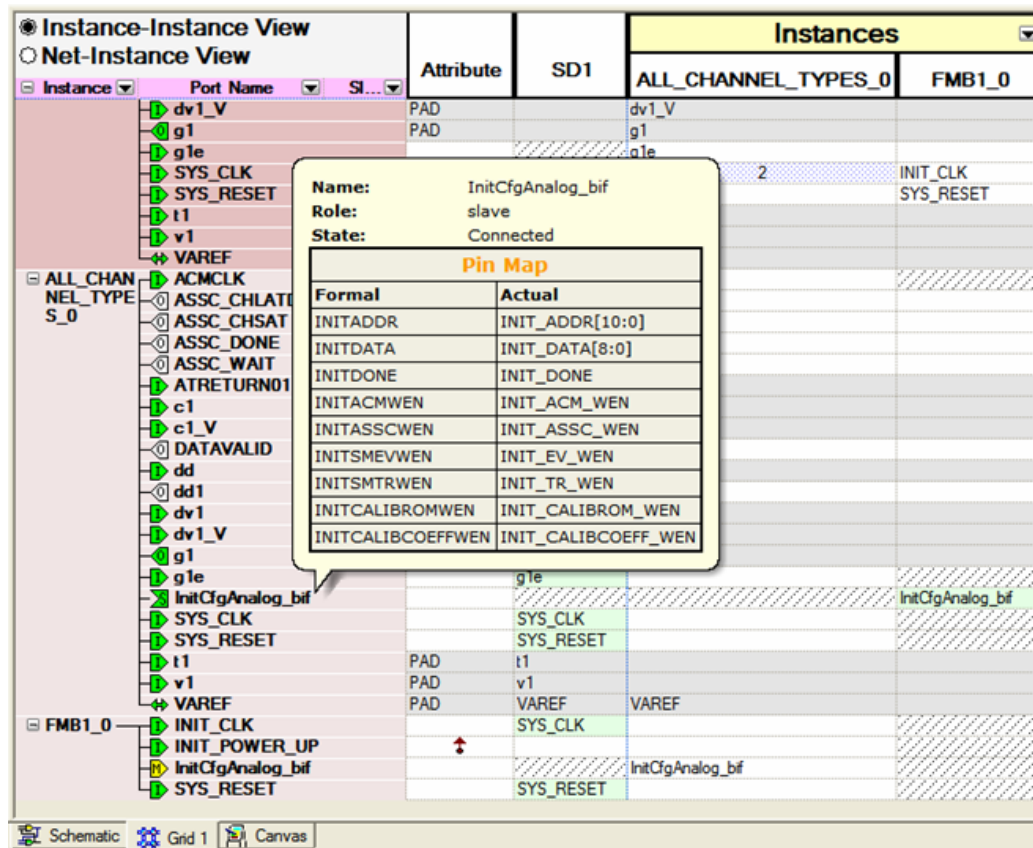

Figure 8 • SmartDesign Connectivity Grid in Libero v8.2 SP1
4. Make sure the additional ports (INIT_CALIBROM_WEN and INIT_CALIBCOEFF_WEN) are properly connected, either through SmartDesign (Figure 8) or HDL coding.